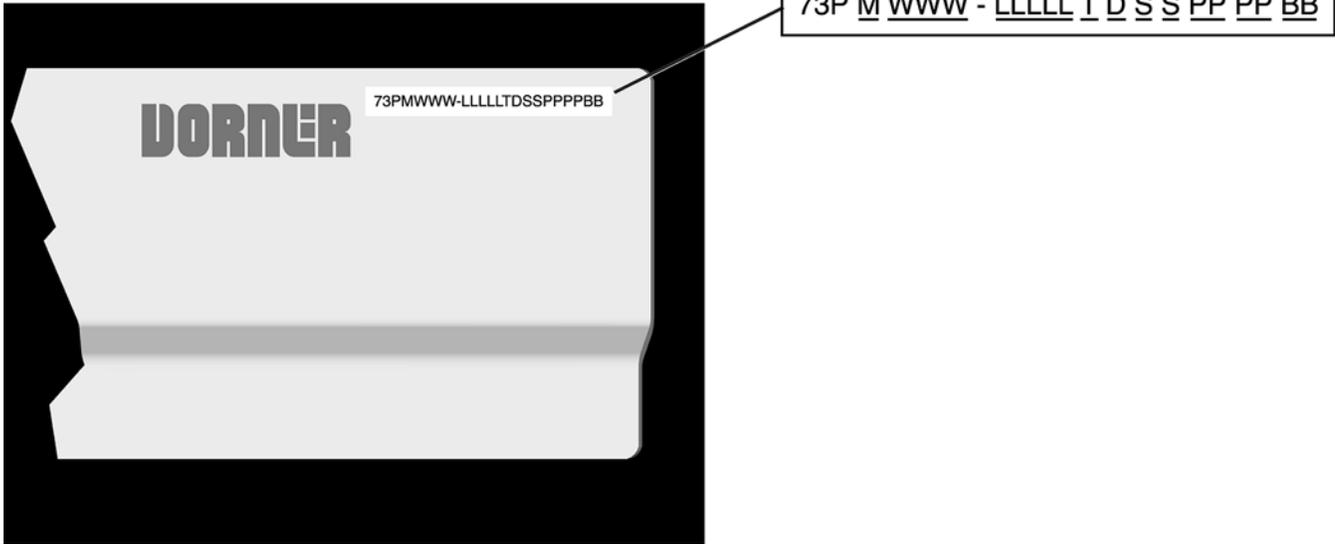

Figure 67
Refer to model number on the conveyor frame (**Figure 67**). From the model number determine the conveyor width (WWW), length (LLLLL) and belt type (BB). Use data to configure belt part number as indicated below.